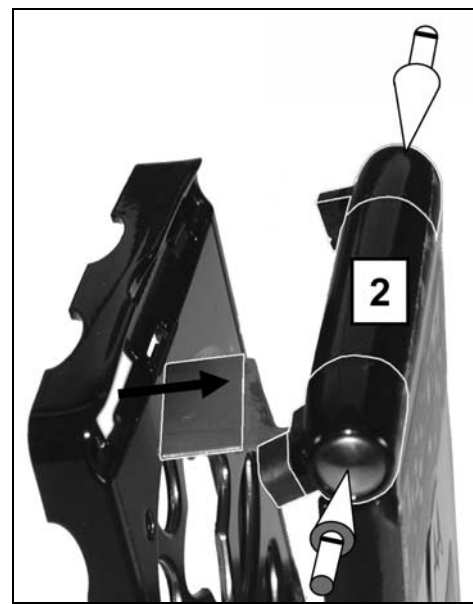

Figure 7-20.
2. Hold knuckle ends of flip together while working flex connector from slot in housing until flip assembly is free (see Figure 7-20).